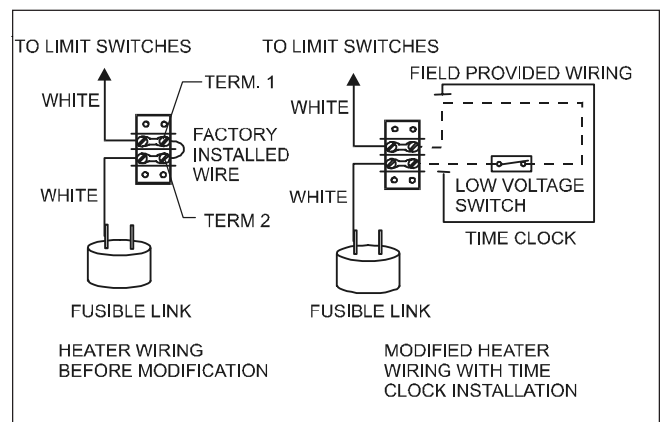

Figure 8. Time Clock Wiring.
To install a time clock auxiliary switch into the heater wires (see Figure 8):
2. Remove the factory installed wire between terminals 1 and 2 on the terminal strip (see Figure 8).